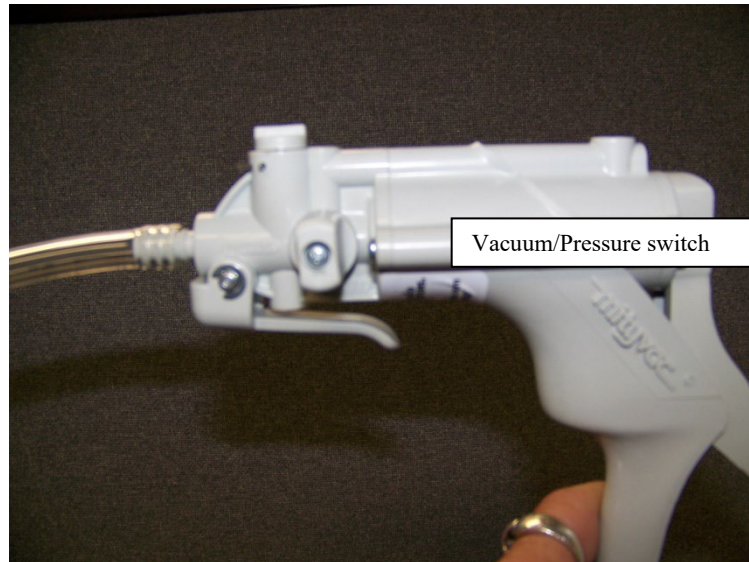

Figure 10: Vacuum and pressure ports
- 4) Verify that the vacuum/pressure switch is pointed toward “vacuum.” (see Figure 10).